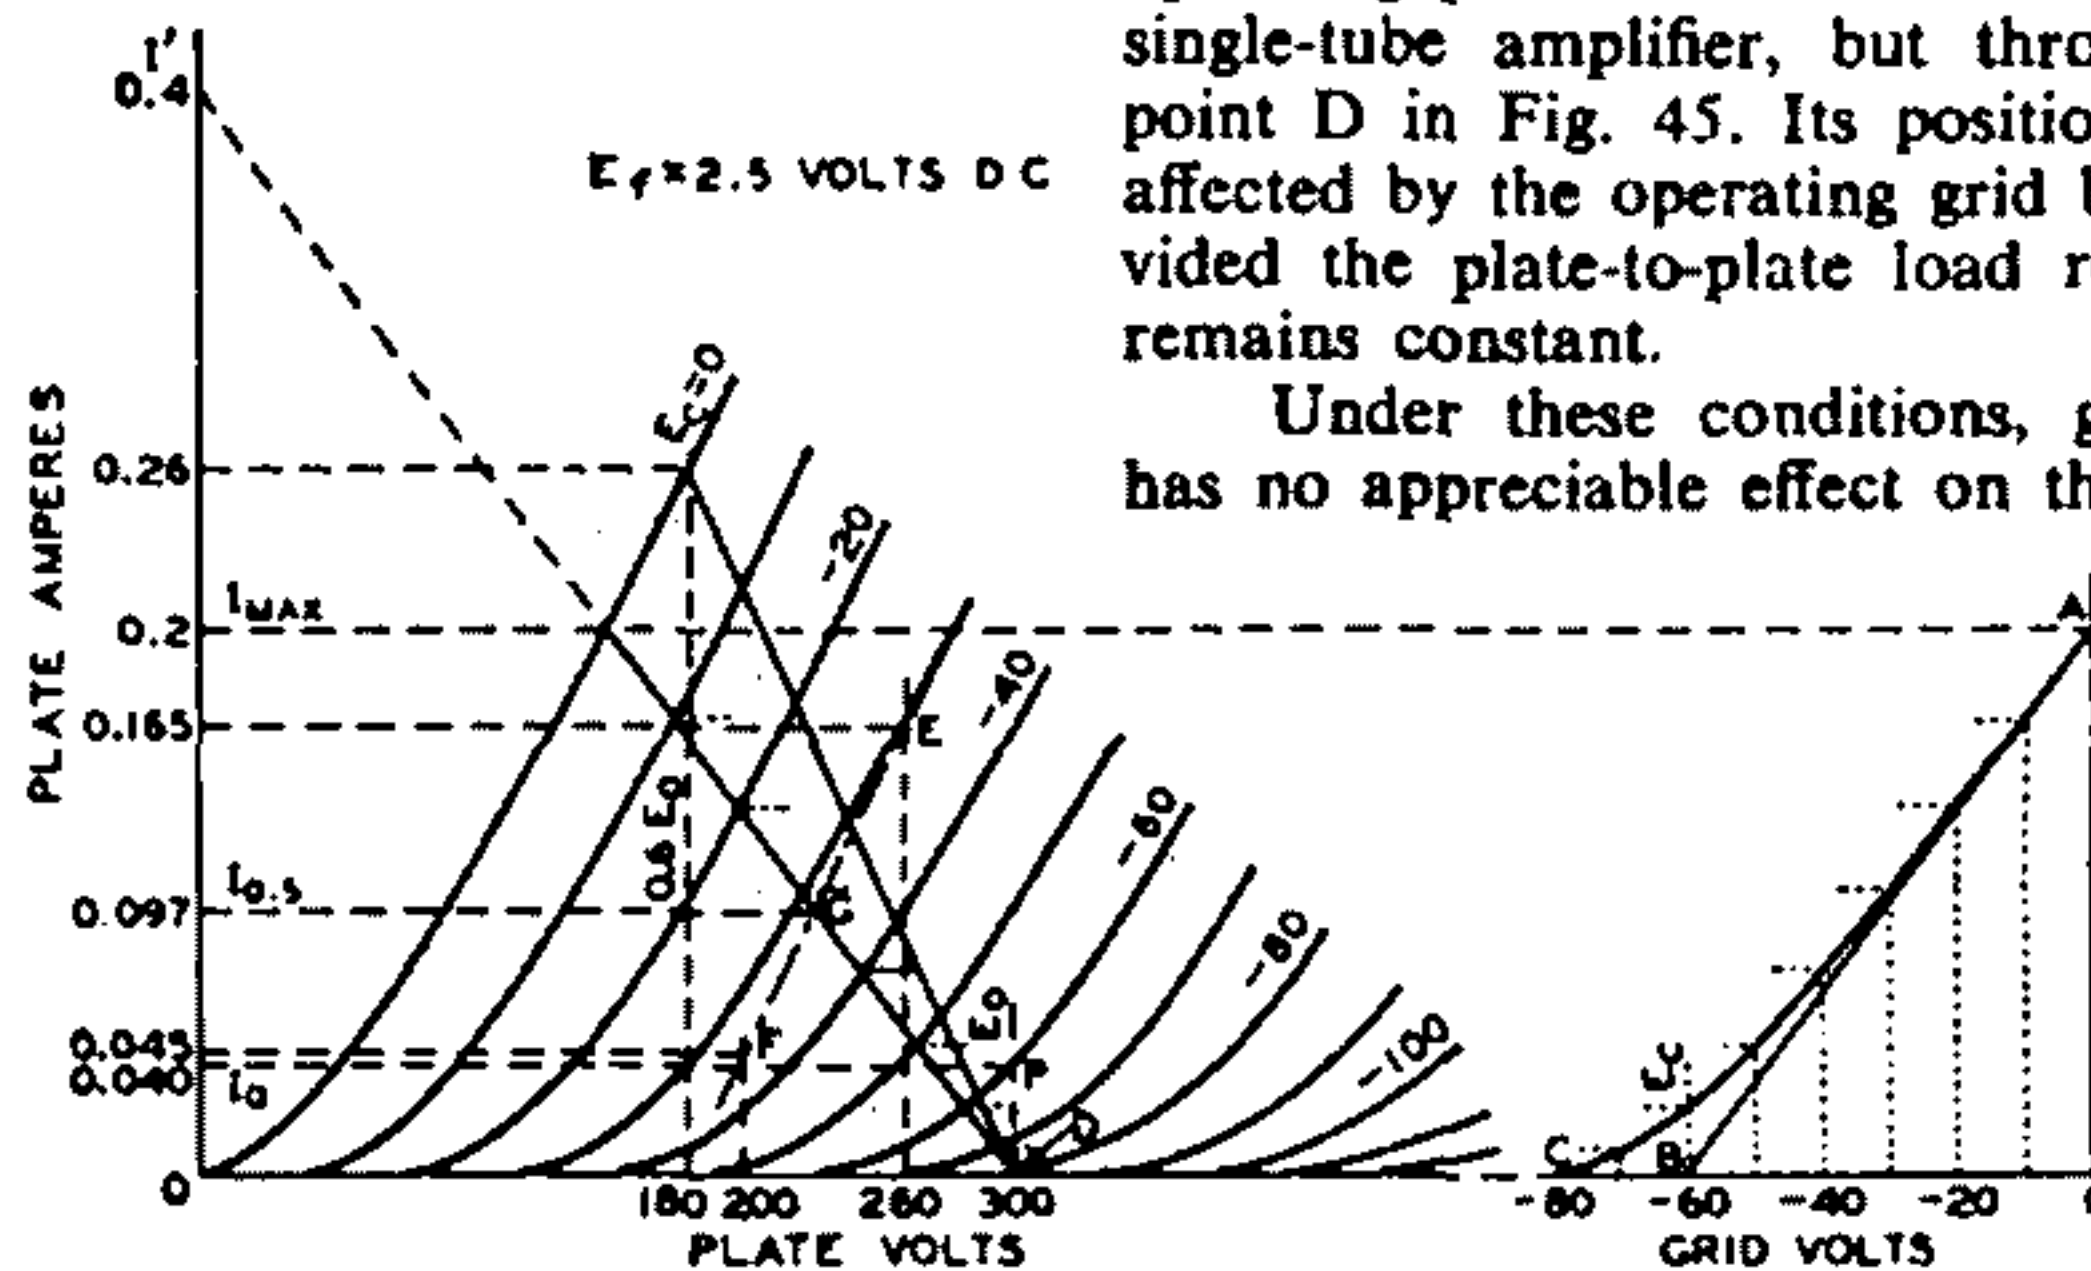

Fig. 45—Graphic calculations for class AB₁ amplifier using a power triode. Fig. 46—Instantaneous curve for class AB₁ amplifier.
In class AB₁ push-pull amplifier service using triodes, the operating conditions may be determined graphically by means of the plate family if E_c , the desired operating plate voltage, is given. In this service, the dynamic load line does not pass through the operating point P as in the case of the single-tube amplifier, but through the point D in Fig. 45. Its position is not affected by the operating grid bias provided the plate-to-plate load resistance remains constant.
In general, for any load line through point D, Fig. 45, the plate-to-plate load resistance in ohms of a push-pull amplifier is $R_{pp} = 4E_o/I'$, where I' is the plate-current value in amperes at which the load line as projected intersects the plate-current axis, and E_o is in volts. This formula is another form of the one given under push-pull class A amplifiers, $R_{pp} = 4(E_o - 0.6E_o)/I_{max}$, but is more general. Power output $= (I_{max}/\sqrt{2})^2 \times R_{pp}/4$, where I_{max} is the peak plate current at zero grid volts for the load chosen. This formula simplified is $(I_{max})^2 \times R_{pp}/8$. The maximum-signal average plate current is $2I_{max}/\pi$ or $0.636 I_{max}$; the maximum-signal average power input is $0.636 I_{max} \times E_o$.
Example: Fig. 45 illustrates the application of this method to a pair of power triodes operated at $E_o = 300$ volts. Each tube has a plate-dissipation rating of 15 watts. The method is to
the plate family and the load line. Fig. 46 is a curve of instantaneous values of plate current and dc grid-bias voltages taken from Fig. 45. Values of grid bias are read from each of the grid-bias curves of Fig. 45 along the load line and are transferred to Fig. 46 to produce the curved line from A to C. A tangent to this curve, starting at A, is drawn to intersect the grid-voltage abscissa. The point of intersection, B, is the operating grid bias for fixed-bias operation. In the example, the bias is -60 volts. Refer back to the plate family at the operating conditions of plate volts $= 300$ and grid bias $= -60$ volts; the zero-signal plate current per tube is seen to be 0.04 ampere.
As in the case of the push-pull class A amplifier, the second-harmonic distortion in a class AB₁ amplifier using triodes is very small and is largely canceled by virtue of the push-pull connection. Third-harmonic distortion, however, which may be larger than permissible, can be found by means of composite characteristic curves. A complete family of curves can be plotted, but for the present purpose only the one corresponding to a grid bias of one-half the peak grid-voltage swing is needed. In the example, the peak grid voltage per tube is 60 volts, and the half value is 30 volts. The composite curve, since it is nearly a straight line, can be constructed with only two points (see Fig. 45). These two points are obtained from deviations above and below the operating grid and plate voltages.
These steps provide points at 260 volts and 0.165 ampere (E), and at 200 volts and 0.045 ampere (F). A straight line through these points is the composite curve for a bias of -30 volts, shown as a long-short dash line in Fig. 45. At the intersection of the composite curve and the load line, G, the instantaneous composite plate current at the point of one-half the peak signal swing is determined. This current value, designated $I_{0.5}$ and the peak plate current, I_{max} , are used in the following formula to find the peak value of the third-harmonic component of plate current.